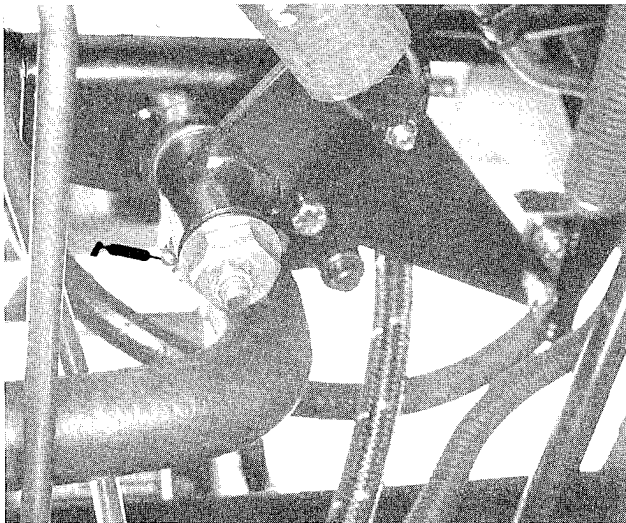
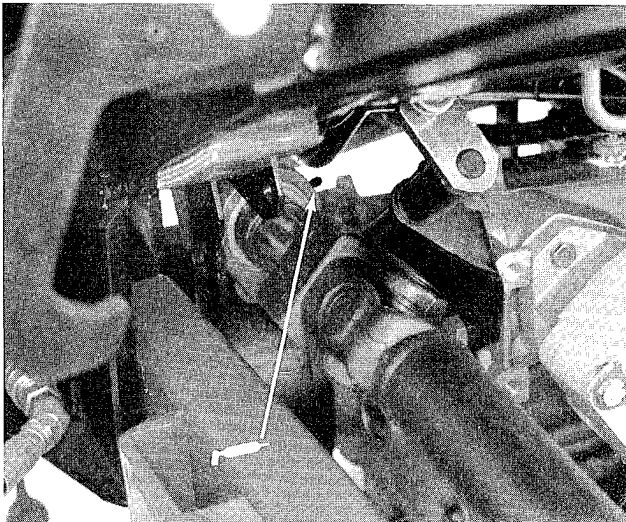

Figure 26
Figure 27
1. The grease fittings that must be lubricated are: Lift arm pivot (2), lift cylinder (4), brake arm pivots (2) (Fig. 21); brake pivot (1), brake pivots (2) (Fig. 22); traction pedal pivot (1) (Fig. 23); engine to pump drive shaft (2) (Fig. 24 & 25); traction adjuster (1) (Fig. 26); P.T.O. Bearing (Fig. 27).